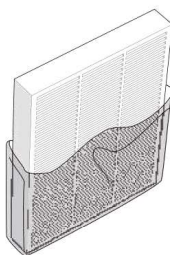

Fig. 4
5. Remove the protective foil from the new filters (fig. 4).